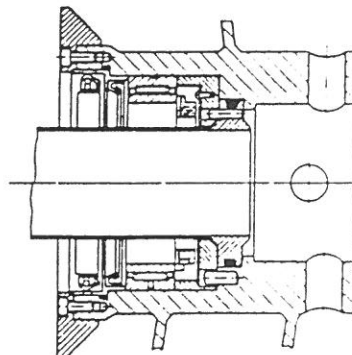

Figure 10
1. The bearing parts are mounted in the end lock ring (10) after removing the screws (11) holding it to the conveyor. Not all lock rings are tapered as shown in figure 10, but they are removed likewise.